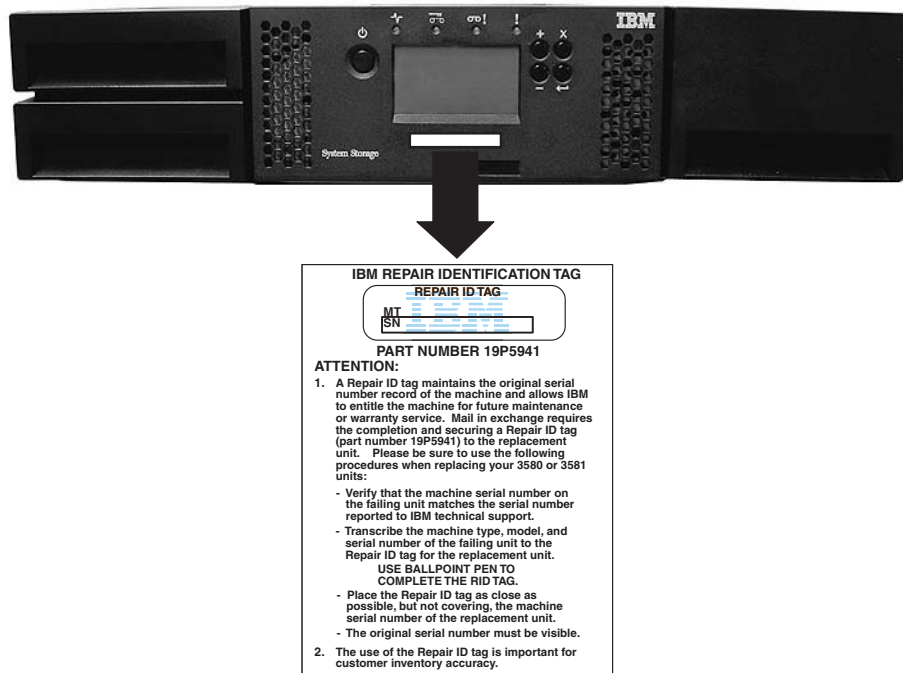

Figure 10-29. Proper placement of the Repair Identification (RID) Tag
- b. Apply the tag to the front of the new replacement library enclosure (as shown in Figure 10-29 on page 10-27)